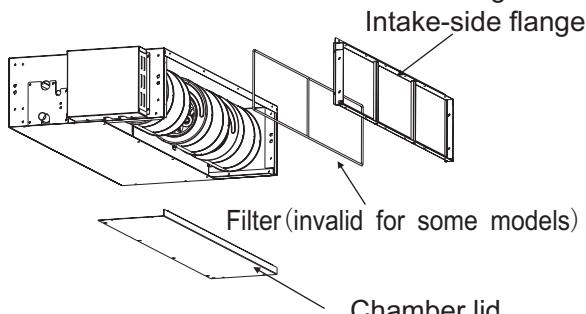
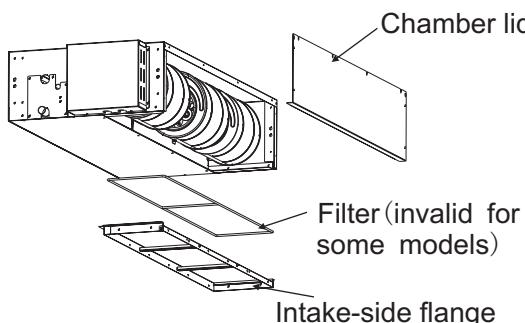

Fig. 3.1.3
Fig. 3.1.4
(2) Reattach the removed chamber lid in the orientation shown in FIG, reattach the removed the intake-side flange in the orientation shown in Fig. 3.1.3, refer to Fig.3.1.4 for the direction of the intake-side flange.